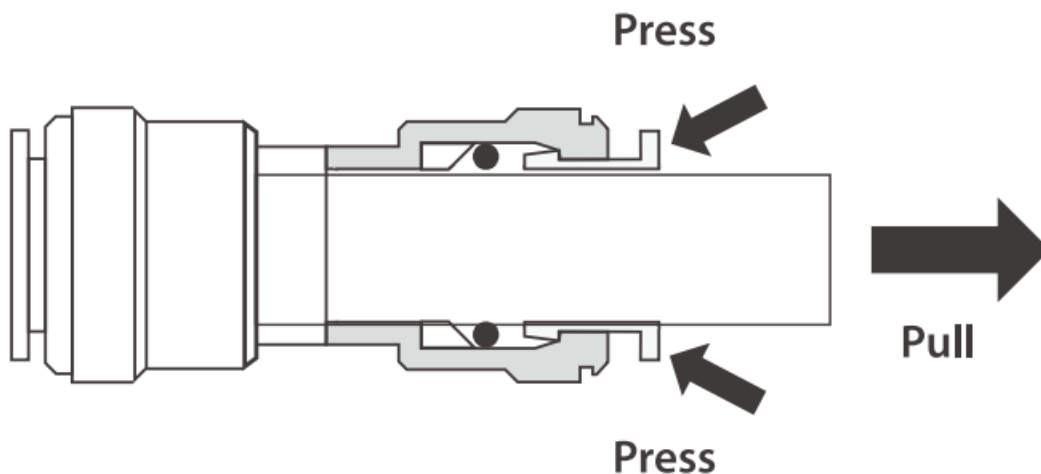

Figure 2
- Use your other hand to pull out the tubing from the fitting **(Figure 2)**.